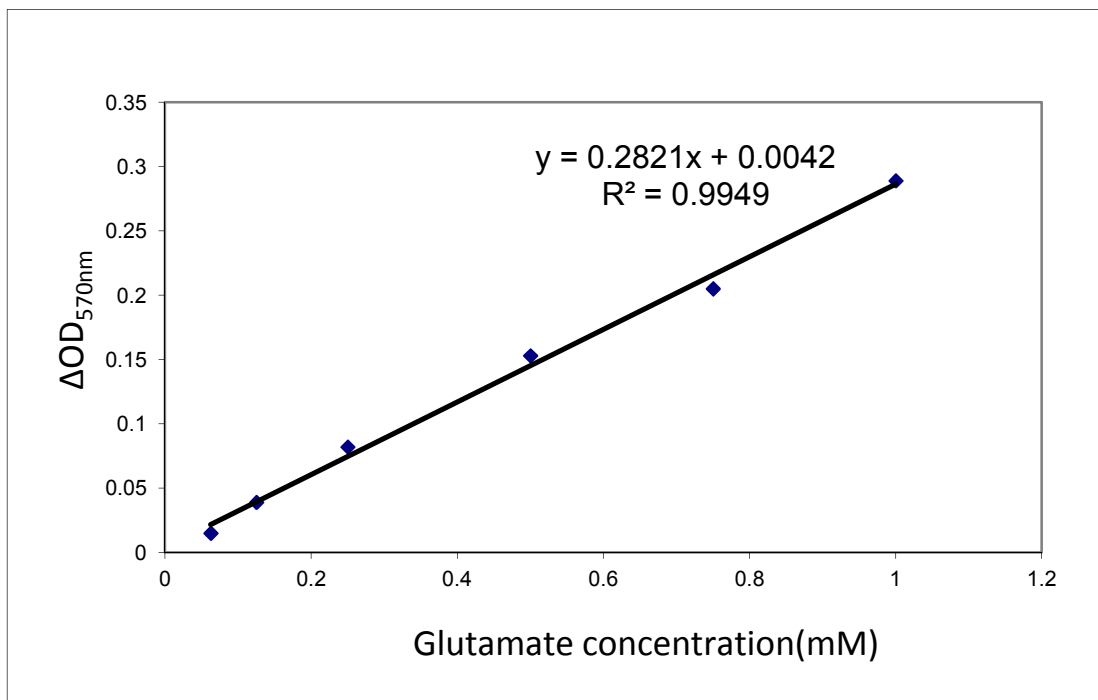

Figure1. A typical glutamate standard curve measured by ScienCell™ Glutamate Assay kit
Data from Glutamate Assay of glutamate solutions with concentrations ranging from 0.02 to 1 mM show a linear relationship between OD_{570nm} and glutamate concentration (Figure 1).
2. Based on the calibrated ΔOD_{570nm} of the glutamate standard, make a standard curve by plotting ΔOD_{570nm} as a function of glutamate concentration (See Figure 1 for a typical standard curve). Determine the equation and R^2 value of the trend line.